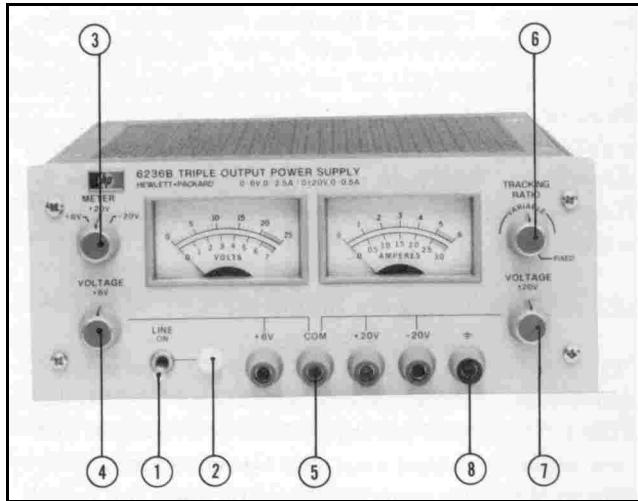

Figure 3-1. Controls and Indicators
3-2 The following steps describe the use of the Model 6236B or 6237B front panel controls and indicators illustrated in Figure 3-1 and serve as a brief check that the supply is operational. Follow this checkout procedure or the more detailed performance test of paragraph 5-6 when the instrument is received and before it is connected to any load equipment. Proceed to the more detailed procedures beginning in paragraph 5-6 if any difficulties are encountered.
3-7 This power supply can be operated individually or in parallel with another supply (see paragraph 3-19). All output terminals are isolated from ground. The $\pm 20V$ and $+6V$ or $+18V$ outputs use a single common output terminal. This common (COM) terminal or anyone of the other output terminals may be grounded to the chassis at the front panel ground terminal (⑧ in Figure 3-1), or all outputs may be left floating. Loads can be connected separately between each of the 0 to 20V output terminals and the COM terminal, or between the -20V and the +20V terminals for a 0 to 40V output.